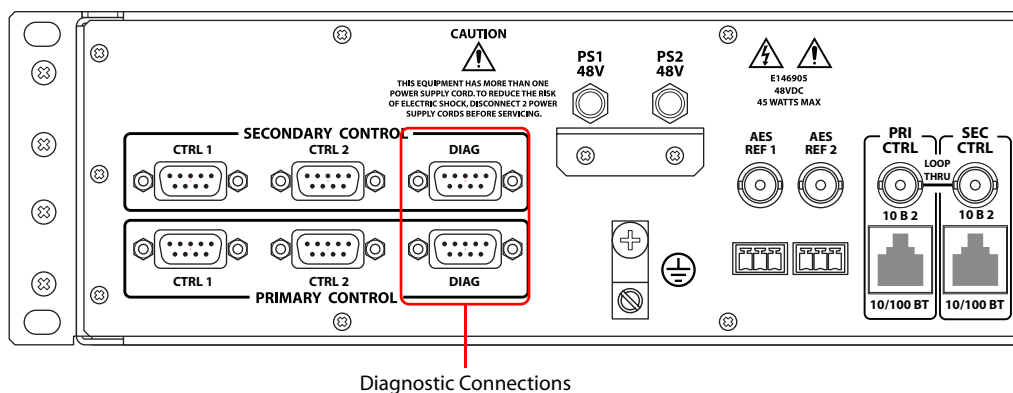

Figure 2-5. Diagnostic Connections (Rear View)
- 1 Locate the diagnostic connections on the rear of the EC9535, as shown in Figure 2-5. The diagnostic connections are labeled 'DIAG'.